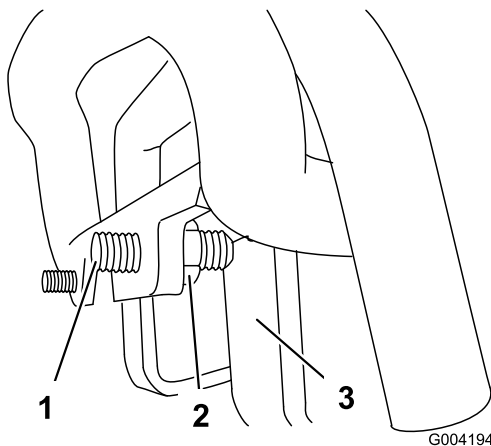

Figure 54
3. If the machine veers to the **left**, loosen the **right** jam nut and adjust the tracking set screw on the front of the traction control (Figure 54).
4. If the machine veers to the **right**, loosen the **left** jam nut and adjust the tracking set screw on the front of the traction control (Figure 54).